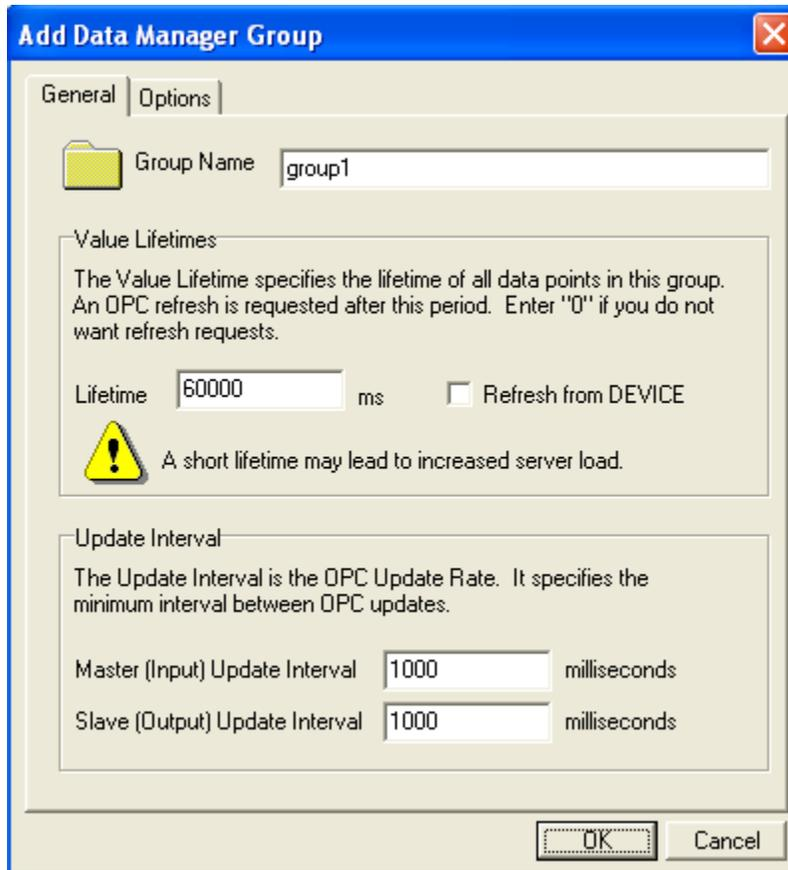

Figure 21 - Add Data Manager Group Window
6. The **Add Data Manager Group** window (Figure 21) appears.